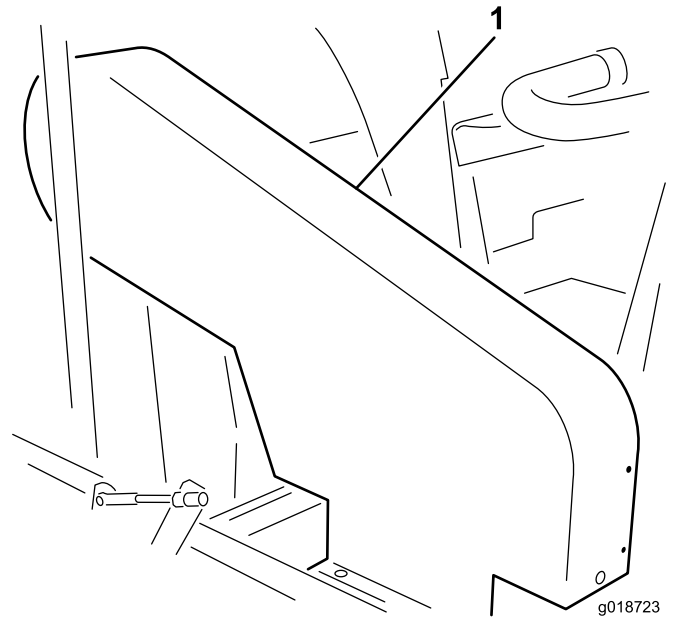

Figure 19
Note: It is not necessary to remove the upper belt guard (Figure 19) to check the belt tension. If for some reason the belt guard must be removed, remove the 4 bolts, washers, and nuts securing the guard to the frame. Never operate the machine without the guards in place.
Check the tension by depressing the belt at the mid span of the impeller and clutch pulleys with 4–5 lbs (18–22 N) of force. The belt should deflect .5 inches (1.27 cm). If the deflection is incorrect, proceed to Adjusting the Impeller Drive Belt. If the deflection is correct, continue normal operation (Figure 19).
Check the tension by depressing the belt at mid span of the jackshaft and clutch pulleys with 4–5 lbs (18–22 N) of force. The belt should deflect .25 inches (6.35 mm). If the deflection is incorrect, proceed to Adjusting the Jackshaft Belt. If the deflection is correct, continue normal operation (Figure 19).
1. Remove the 4 bolts, washers and nuts securing the upper shroud to the frame (Figure 19).